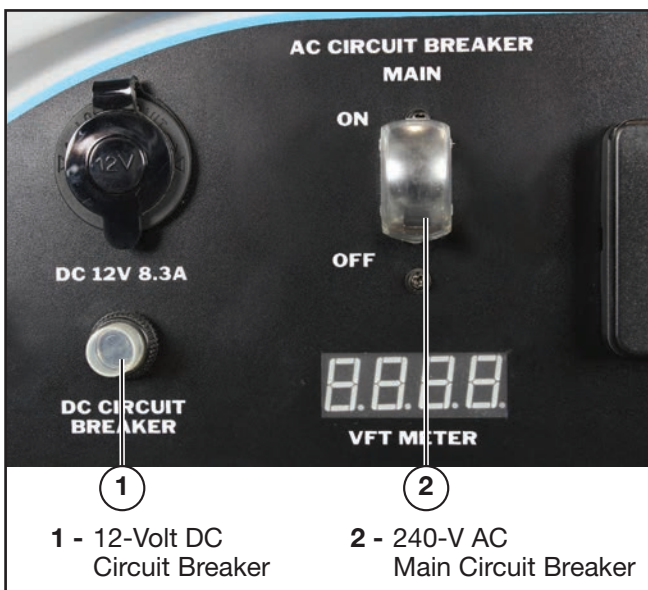

Figure 21 – Circuit Breakers
2. Make sure the AC circuit breaker is properly set to the **OFF** position and the DC breaker is pushed in (see *Figure 21*).
3. Connect electrical cords or devices into the 240-Volt AC or 12-Volt DC outlets, as required. Switch the 240-Volt AC Main Circuit Breaker to the **ON** position and ensure that the DC breaker is pushed in (see *Figure 21*).